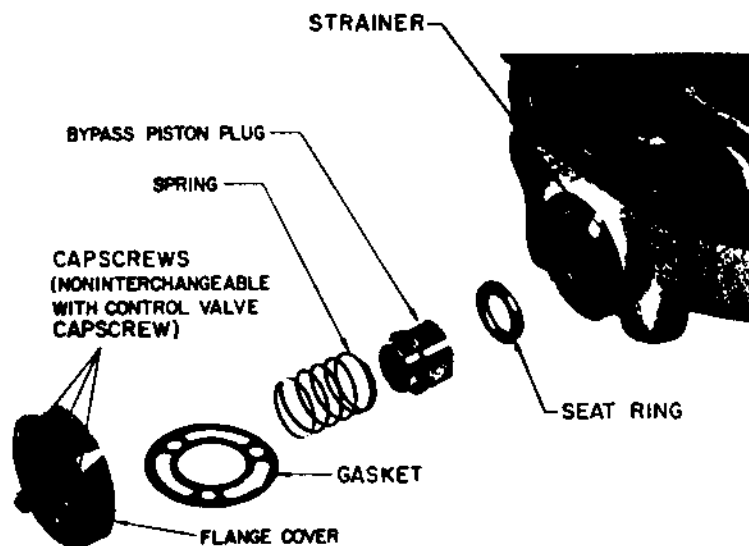

Figure 2-1. Removal of Bypass Piston Plug
a. Remove the three socket head capscrews holding piston plug to cylinder head of the replacement compressor. See figure 2-1.
d. Using a new gasket, install the unloaders in the cylinder heads of the replacement compressor. See figure 2-1. Refer to table 3-1, page 3-16, for required torque values.